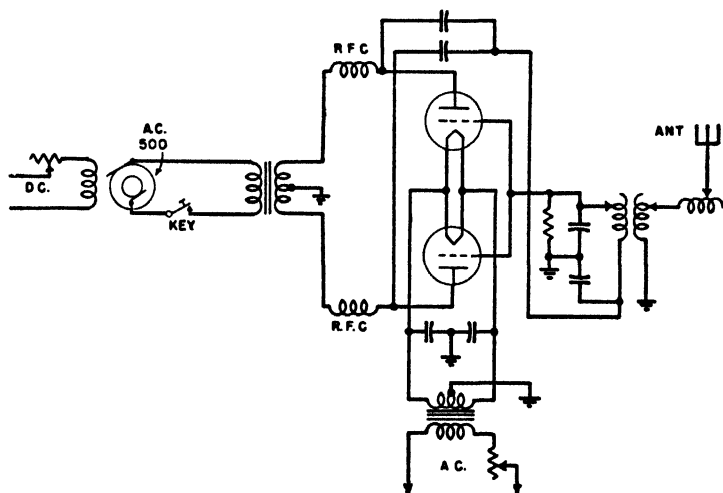

FIG. 6-6.—Marine self-rectifying transmitter circuit.
*Ans.* Figure 6-6 illustrates a typical marine "self-rectifying" circuit. The plates of the tubes receive their voltage supply from the secondary winding of a high-voltage transformer. Since the plates are excited by an alternating voltage each tube is conductive only on alternate portions of the charging cycle, hence the name of self-rectification. If one